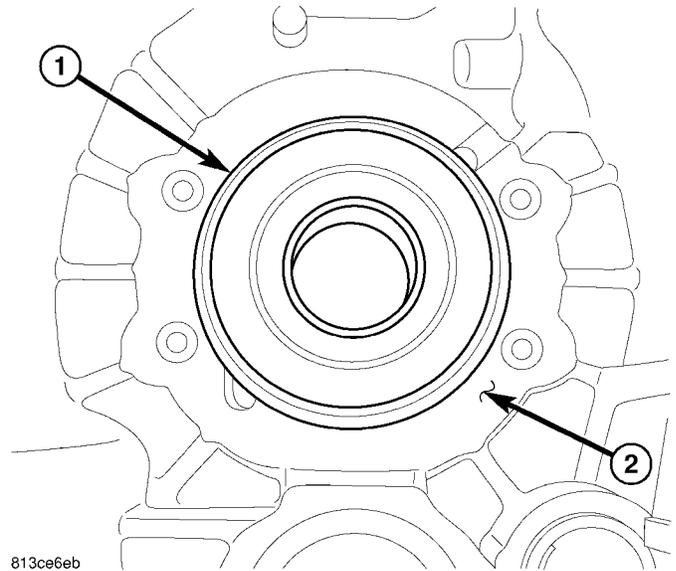

Fig. 84 REAR HOUSING MAINSHAFT BEARING
(2) Install mainshaft bearing (1) (Fig. 84) into housing (2).
(3) Install bearing retainer and tighten bolts to 10 N·m (7.3 ft. lbs.).